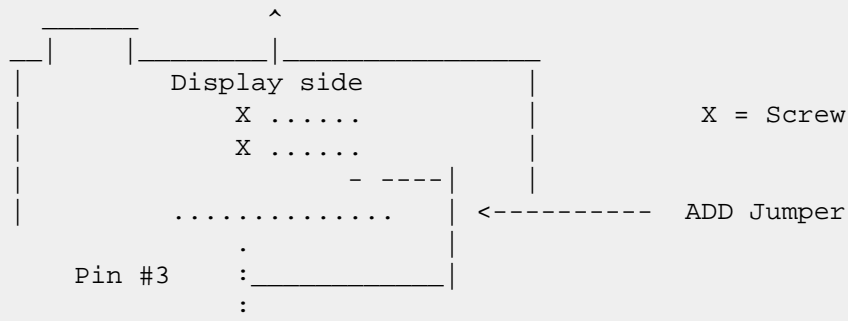

figure 2
4. Solder a jumper wire to the foil side of the TX-RX board as shown in figure 2.